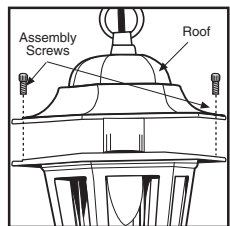

Figure 1
- a. For two screw and multiple screw assembly roofs, remove assembly screws on roof (or underneath roof) and insert bulb(s). Reattach roof (see figure 1).